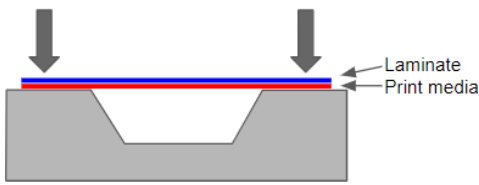

Fig.1
- 1) Position the film over the entire surface area and apply it on the surface with the help of a squeegee. Fix the edges firmly before applying the film into the corrugation. *Fig.1*